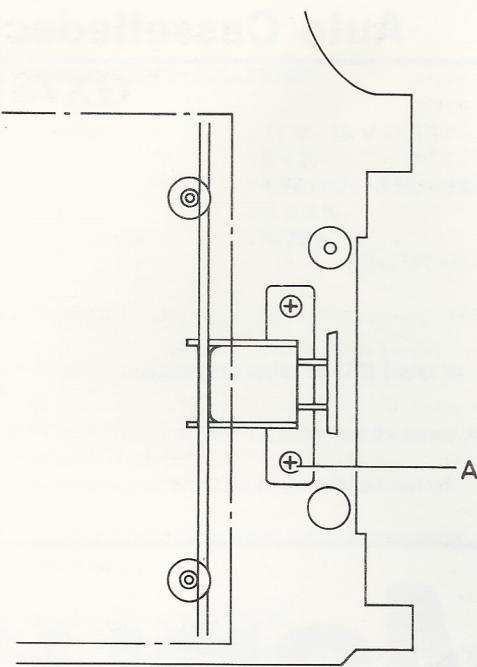

Fig. 1
1. Azimuth (refer to Fig. 1)
1. Azimuth (Fig. 1)
1. Réglage d'azimut (Fig. 1)